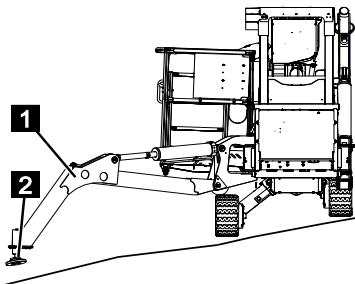

Fig. 105
2. Move the outriggers (Fig.105/1) on the down slope side into the wide or narrow bracing position (Chapter 7.11 „Adjusting and operating the outriggers for bracing”, on page 111) and lower them.
3. Make sure that the bracing pads (Fig.105/2) remain just above the ground if possible.
- Observe the maximum height difference when driving over a ridge (max. ridge height $X = 100$ mm (Fig.105/X).